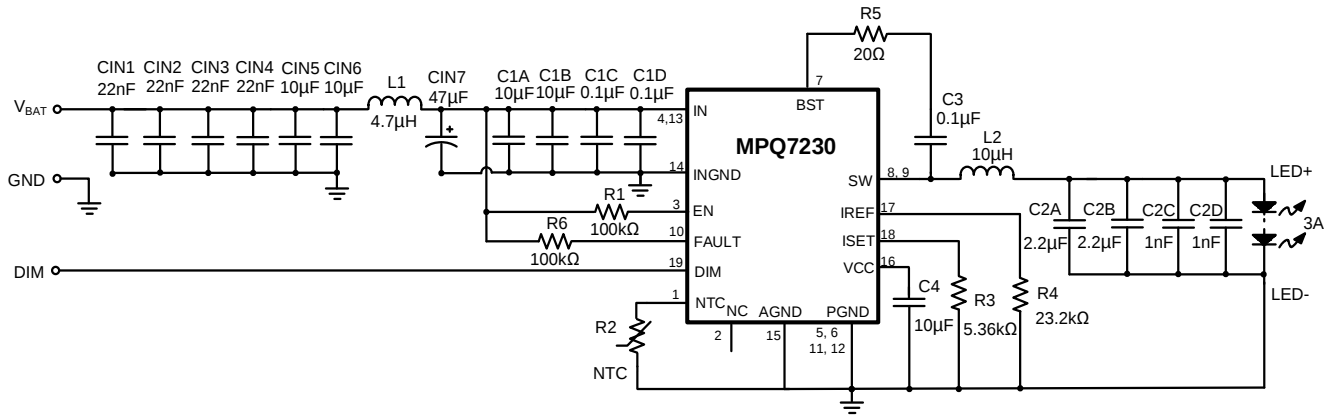

Figure 9: Buck Application Circuit ($I_{LED} = 3A$)
13) The recommended layout is based on Figure 9 on page 50.